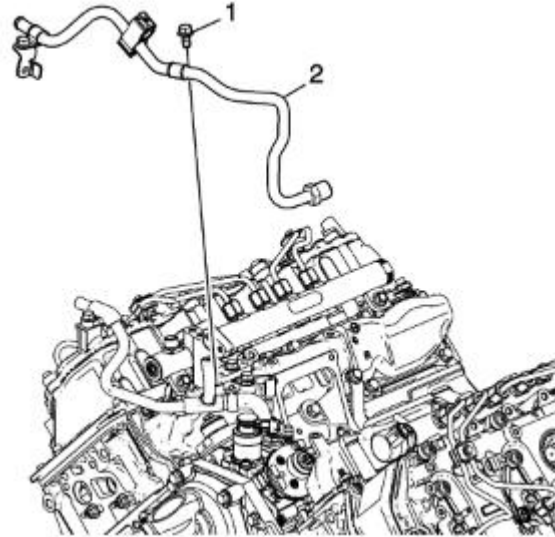

Fig. 97: Fuel return pipe installation
- b. Install the fuel return pipe. Torque the mounting bolt to 18 ft-lb. Reference figure 97 for this step.